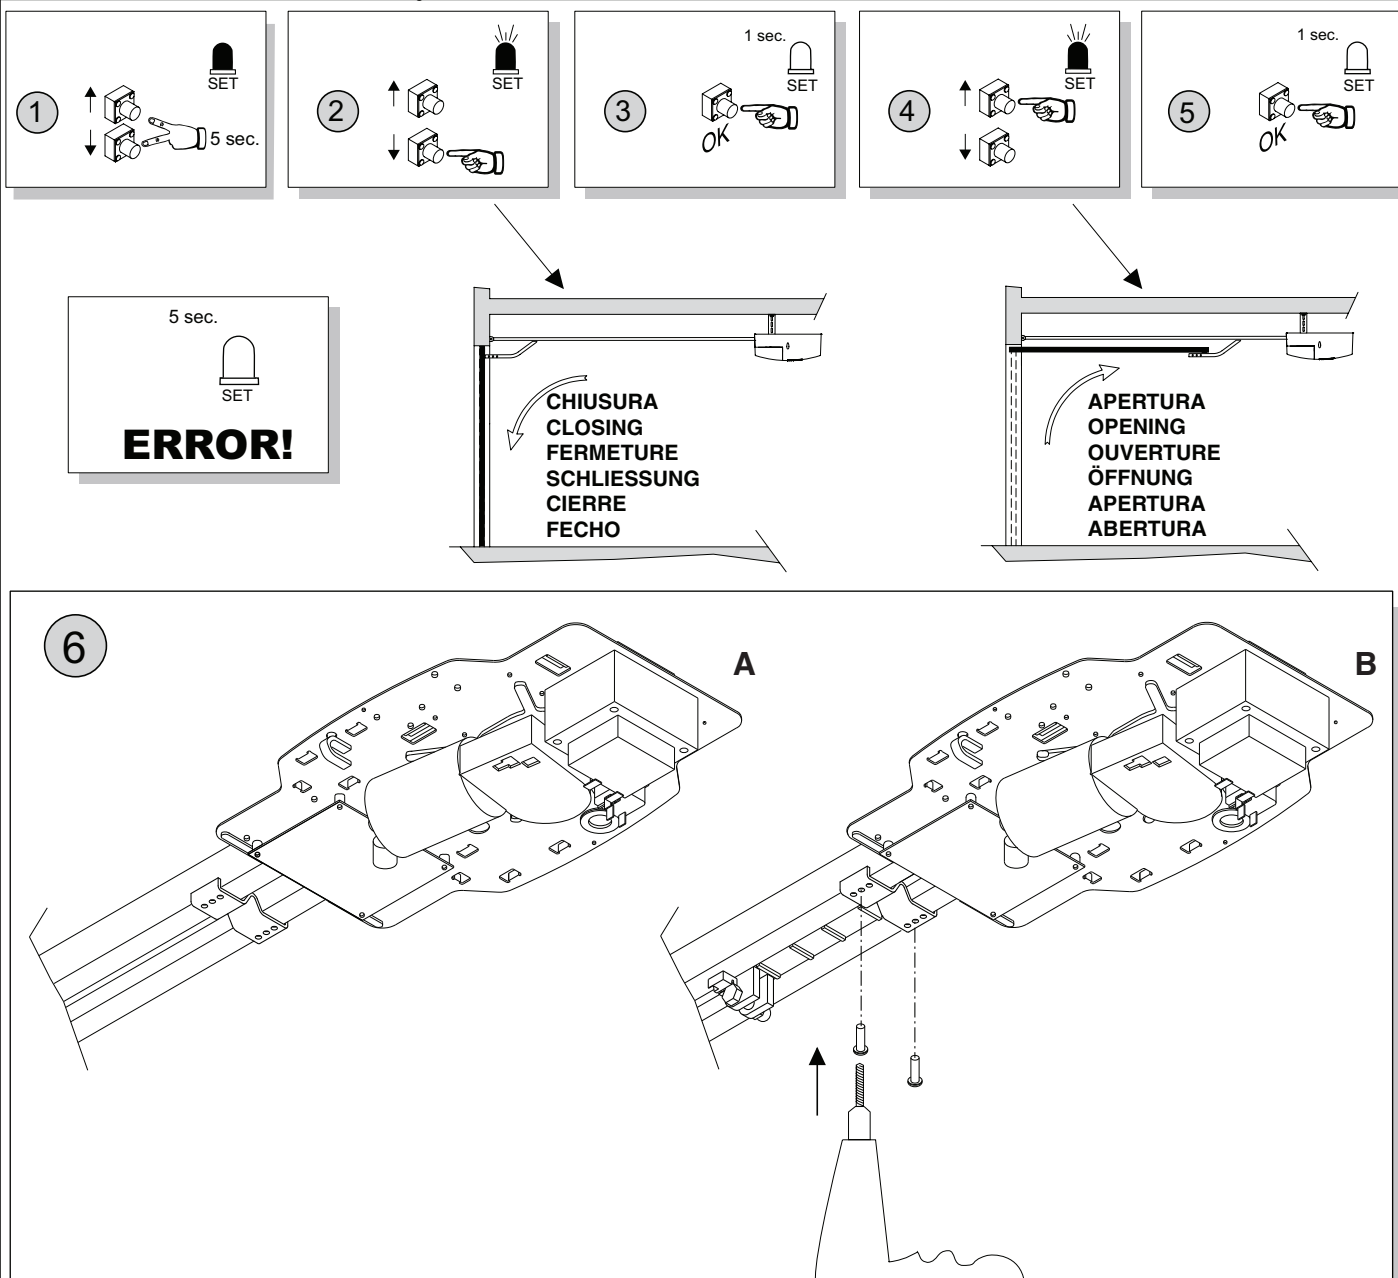

Fig. 19
“UP”: limit device setting and opening command. An autoset operation of the torque will be performed by keeping this button pressed for 5 seconds (Fig.19).
9) OPENING / CLOSING TORQUE AUTOSETTING (Fig.19)